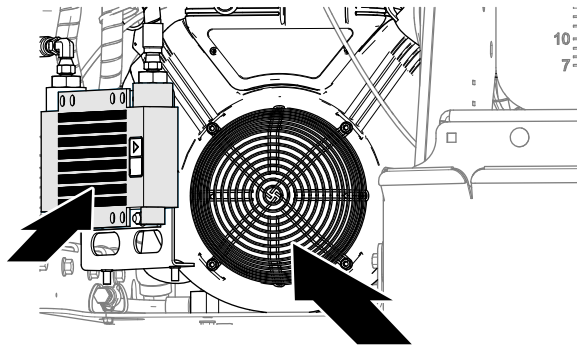

Figure 104
2. Use a brush or dry cloth to remove debris from the engine debris guard and the hydraulic-oil cooler (Figure 104).